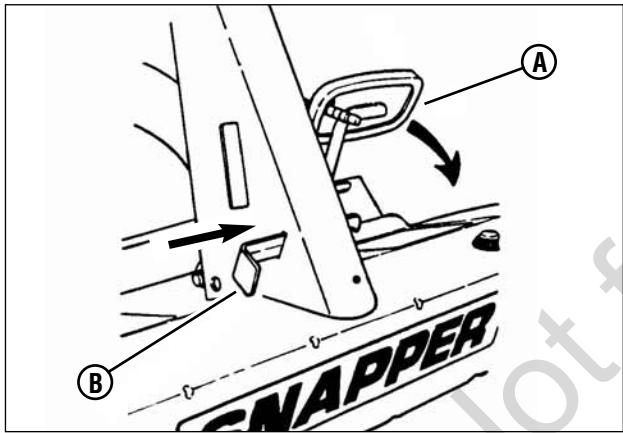

Figure 16: Setting the park brake
1. To set the park brake, press the clutch/brake pedal (**A**, **Figure 16**) all the way down, slide the park brake latch (**B**) all the way in to the engaged position, and release the clutch/brake pedal. A detent in the park brake latch will keep the park brake engaged.